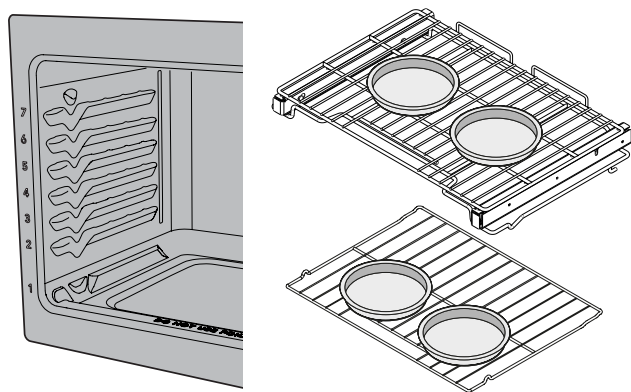

Figure 11: Pan positions for best results when baking cakes on two racks.
- For baking cakes use the following rack positions and place bakeware as shown in Figure 11. In upper rack use position 5 (glide) or 6 (flat).